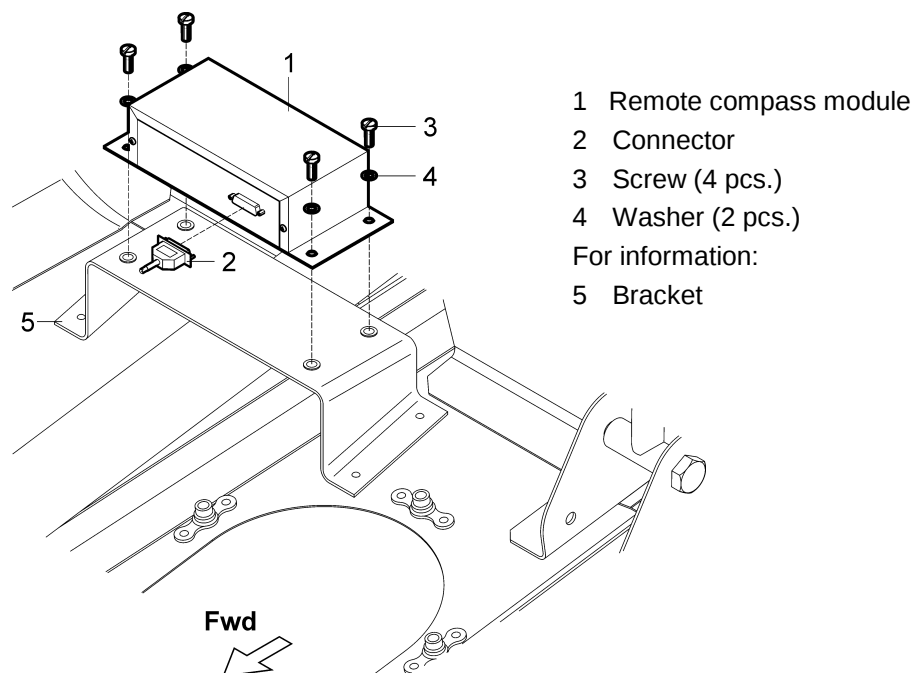

Fig. 12-29: NAV antenna removal / installation
- Disconnect the connector (2, Fig. 12-29) from the compass module.
- Unscrew the screws (3) with the washers (4) and remove the compass module (1).
- Place the compass module (1, Fig. 12-29) on the bracket (5) and fasten it by means of the screws (3) with the washers (4).
- Connect the connector (2) to the compass module.